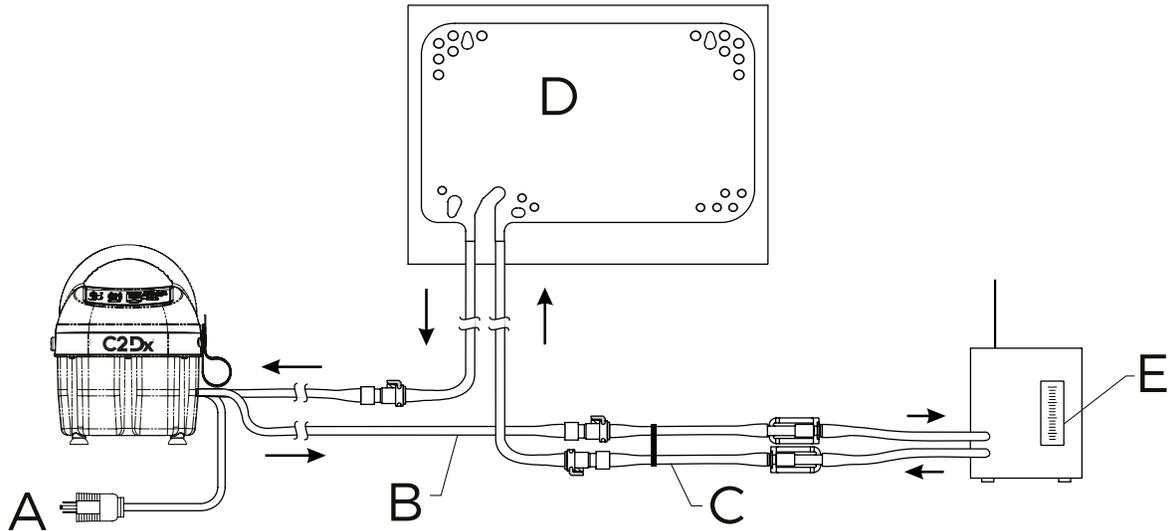

Figure 2: Functional check setup for Colder connector
1. Plug into a properly grounded outlet (A) (Figure 2 on page 17).
2. Fitting and tube closest to the front of the **T/Pump® Temperature Therapy Pump** (B).
3. Attach the Adapter Hose Assembly Kit - TP700C to TPT9 P/N: 77926000 (C).
4. **Mul-T-Pad® Temperature Therapy Pad**, size 18" or 22": lay the pad flat and at the same level as the pump (D).
5. **TPT9**, 7 gph (26.5 lph) minimum. Read at top of the float (E).